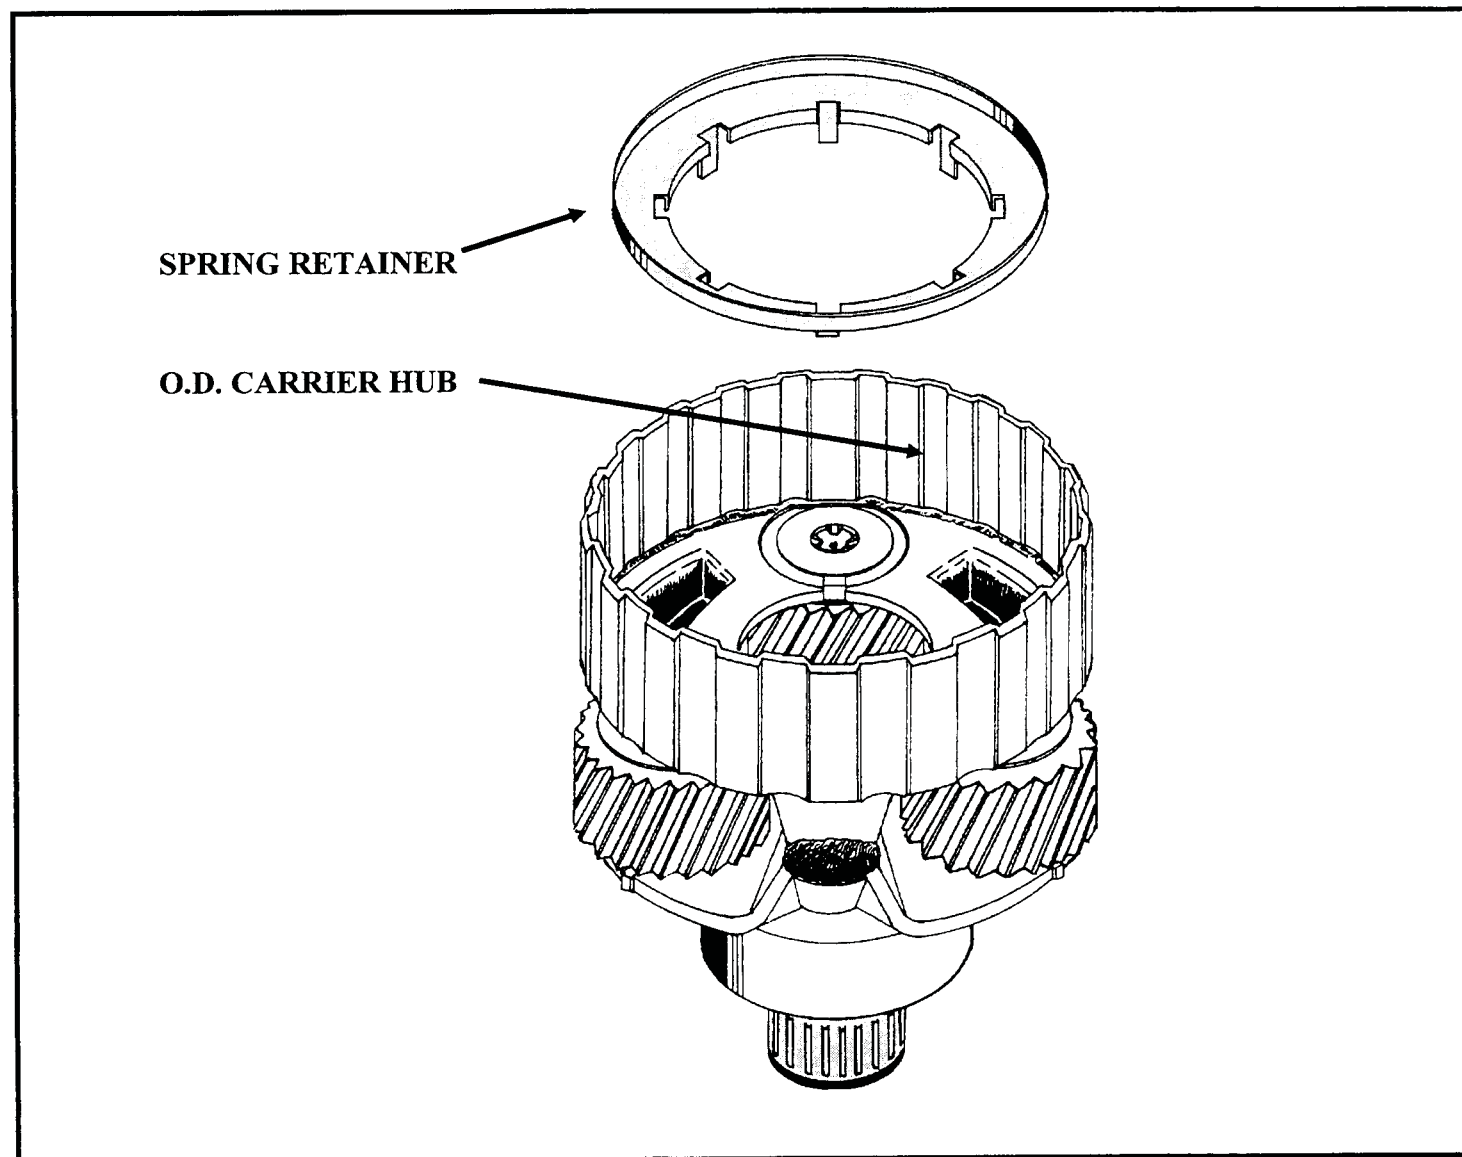

Figure 16
- A. Poorly supported overdrive planetary carrier, allowing the inside diameter of the hub on the overdrive carrier to contact, and turn in a twisting motion, the overrun clutch spring retainer. This will destroy the retainer and return springs in a very short period of time (See Figure 16). NOTE: The dimension between the outside diameter of the overrun clutch spring retainer, and the inside diameter of the overdrive carrier hub, is critical. (See Figure 16).